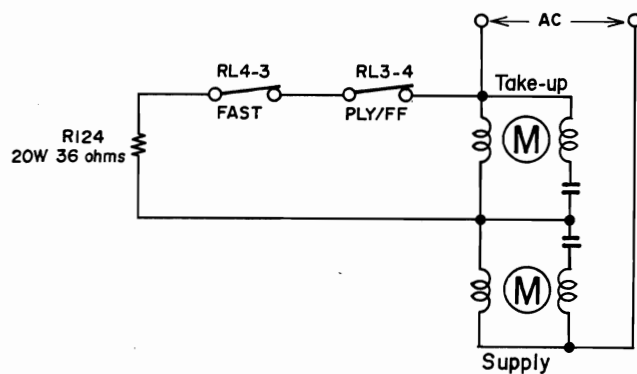

Fig. 6-43
Fig. 6-43 shows how the take up reel motor and the supply reel motor work. Since R124 36 ohms is connected in parallel to the take up reel motor, the torque of the supply reel motor is increased, and the tape is wound by the supply reel motor. If the counter indicates 0:00:50 from this position, "H" signal is issued from IC 2 (12) (relay control). "H" enters the base of TR42 through R115 to